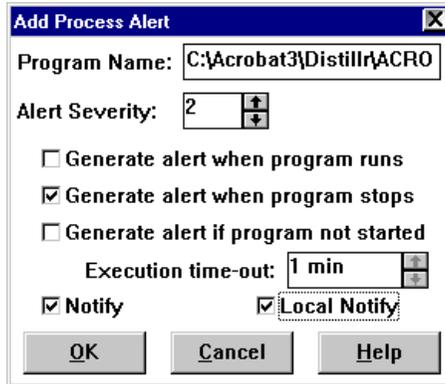

Figure 192. Adding an Alert When ACRODIST Stops
3. Right-click the ACRODIST process and click **Add Process Alert**. Figure 192 appears:
- Log the alert at the server – already configured since we specified **Local Notify** in Figure 192.
- Pop up a message on the administrator's workstation – already configured since we specified **Notify** in Figure 192 and the administrator's workstation should, by default, be configured to pop up all Sev 2 messages.